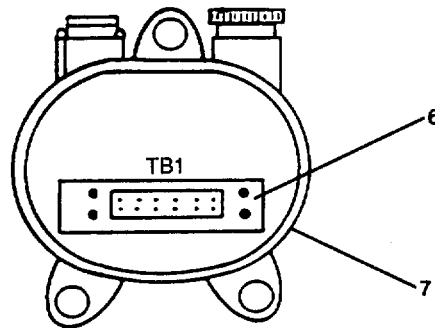
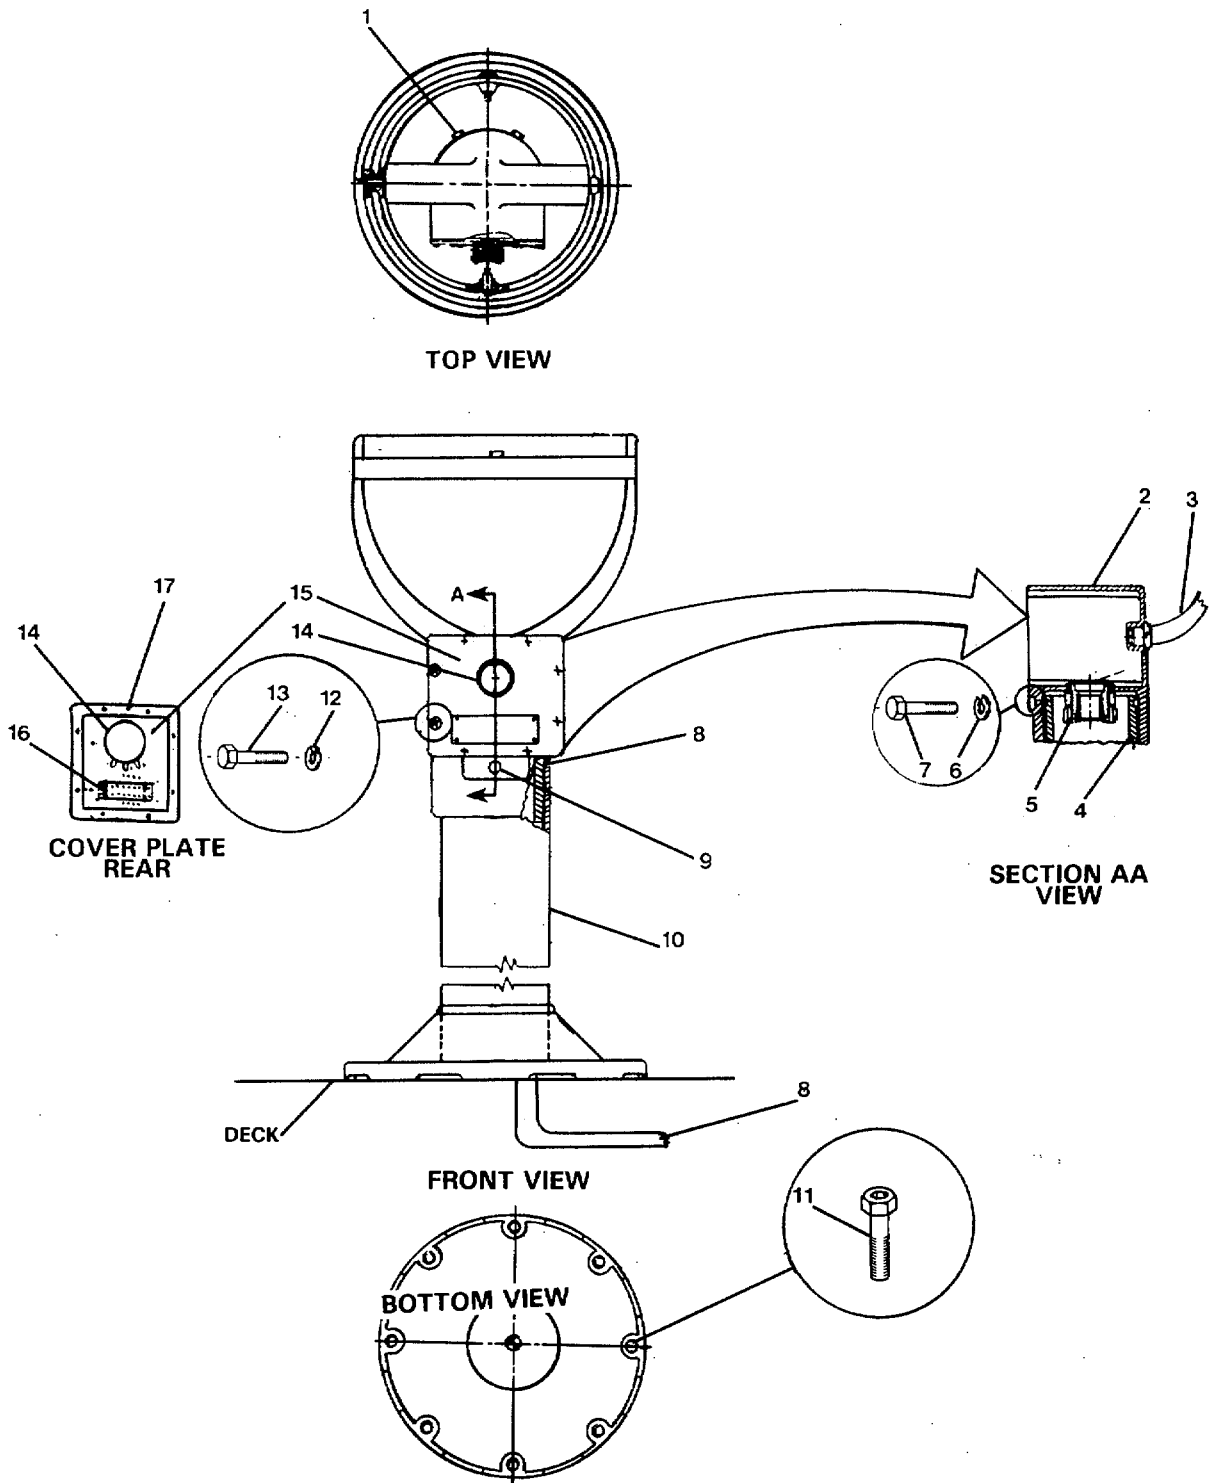

FIGURE 2-16. Bulkhead Mounting Bracket Replacement.
FIGURE 2-17. Pelorus Stand Replacement.
2-22. Replace Bulkhead Mounting Bracket. (FIGURE 2-16)
- a. On appropriate bulkhead mounting bracket (FIGURE 2-16), remove six screws (8) and washers (9) and remove covet (5) from junction box (7) as far as cabling will allow.
- b. On inside of junction box (7), tag and disconnect cable (1) from terminal board (6) TBI.
- c. Tag and disconnect system cable (3) connections from terminal board (6) TBI.
- d. On top of junction box (7), remove cable (1) connector (10) from connector adapter and pull cable (1) out of junction box.
- e. On top of junction box (7), remove cable (3) cable gland (4) and pull cable (3) out of junction box.
- a. Position and support replacement bulkhead mounting bracket (FIGURE 2-16) aligning mounting bracket mounting holes to bulkhead mounting holes. Secure with three bolts (2).
- b. Route system cable (3) into junction box (7) and secure cable gland (4).
- c. Route cable (1) into junction box (7) and secure cable (1) connector (10) to connector adapter.
- d. On inside of junction box (7) connect system cable (3) connections to terminal board (6) TB1. Remove tags.
- e. On inside of junction box (7) connect cable (1) connections to terminal board (6) TB1. Remove tags.
- g. Position cover (5) on junction box (7) and secure with six washers (9) and screws (8).
2-23. Replace Pelorus Stand. (FIGURE 2-17)
- a. Remove eight pan head screws (13, FIGURE 2-16) and lockwashers (12) securing cover plate (15) to housing (2).
- b. Remove cover plate (15) and gasket (17) from housing (2) as far as cabling will allow.
- c. On rear of cover plate (15), tag and disconnect repeater cable (3) connections from terminal board (16).
- d. On rear of cover plate (15), tag and disconnect system cable (8) connections from terminal board (16).
- e. On rear of housing (2) remove repeater cable (3) and cable gland.
- f. Remove fillister head screw (7) and lockwasher (6) securing housing (2) to column (10) at point (9).
- a. Position replacement pelorus stand (FIGURE 2-16) next to deck mounting area.
- b. Remove bearing support plate housing (2) from column (10) and set aside.
- c. Lay column (10) with base on deck.
- d. Remove stuffing tube (5) from column (10).
- e. Route system cable (8) through column (10) and up through stuffing tube (5) body.
- f. Assemble stuffing tube (5) on cable (8) and column (10) but do not secure.
- g. Lift column (6) and base up and align base mounting holes with deck mounting holes, being careful not to damage cable (8), and set on deck.
- h. Secure column (6) and base to deck with eight deck mounting bolts (11).
- i. Lift bearing support plate housing (2) up and place on column (10) being careful not to damage cable (8).
- j. Remove cover plate (15) by removing eight pan head screws (13) and lockwashers (12).
- k. Connect system cable (8) connections to terminal board (16) TB1. Remove tags.